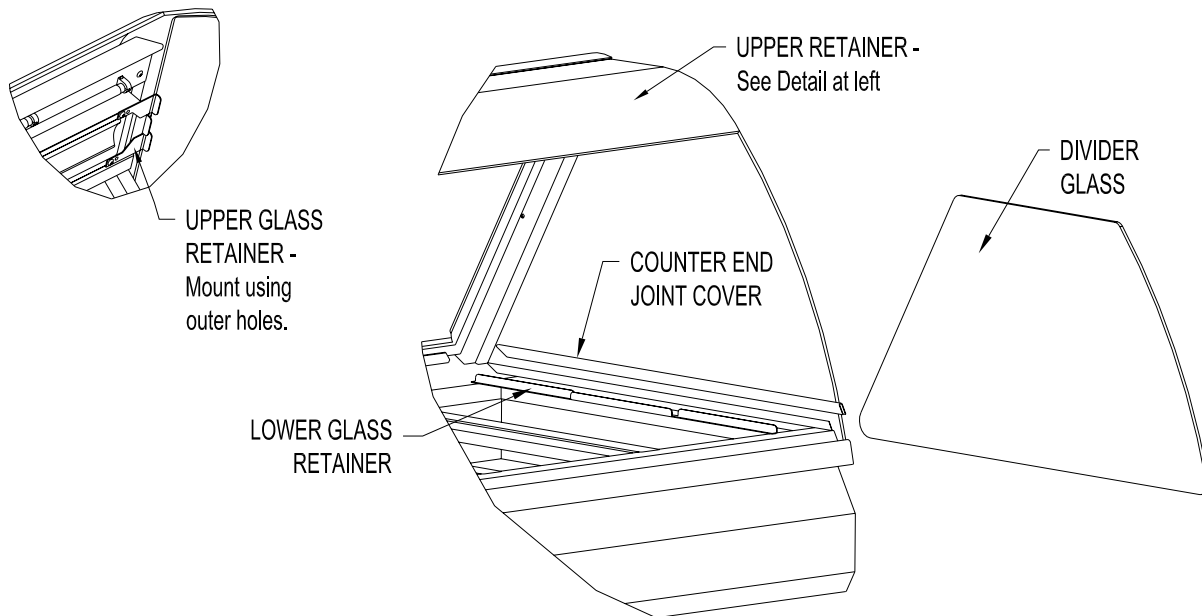

Figure 6. Divider Glass Installation
1. After leveling the cases and bolting the bases together, bolt the canopies together as shown in Fig. 6 with a $\frac{1}{4}$ "-20 x $\frac{3}{4}$ " Hex Head Screw and Keps Nut.
1. Mount the Upper Glass Retainer by first removing the outer (2) retaining screws from the canopy heater reflector on the end of the deli case the Divider Glass is being installed. Insert the screws through the outer set of holes in the Upper Glass Retainer (see Figure 6) and attach the Upper Glass Retainer to the canopy.
2. Place the Lower Glass Retainer in position against the inside of the counter end wall on the end of the deli case the Divider Glass is being installed. The side of the Lower Glass Retainer with (2) vertical walls is placed against the counter end wall.